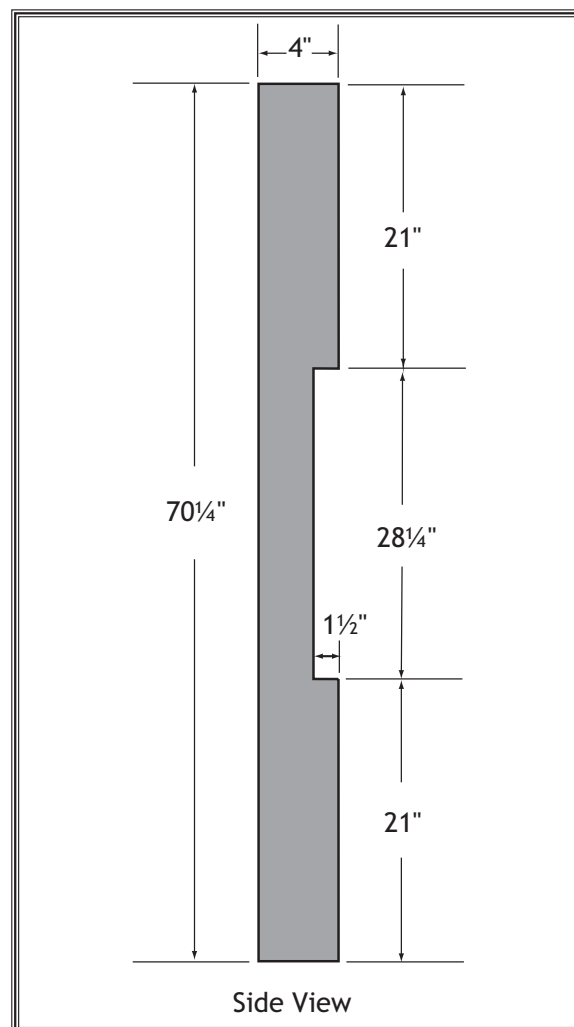

Figure 73. Dimensions of coplanarity gauge.
1. Make the "Coplanarity Gauge" shown in **Figure 73**.